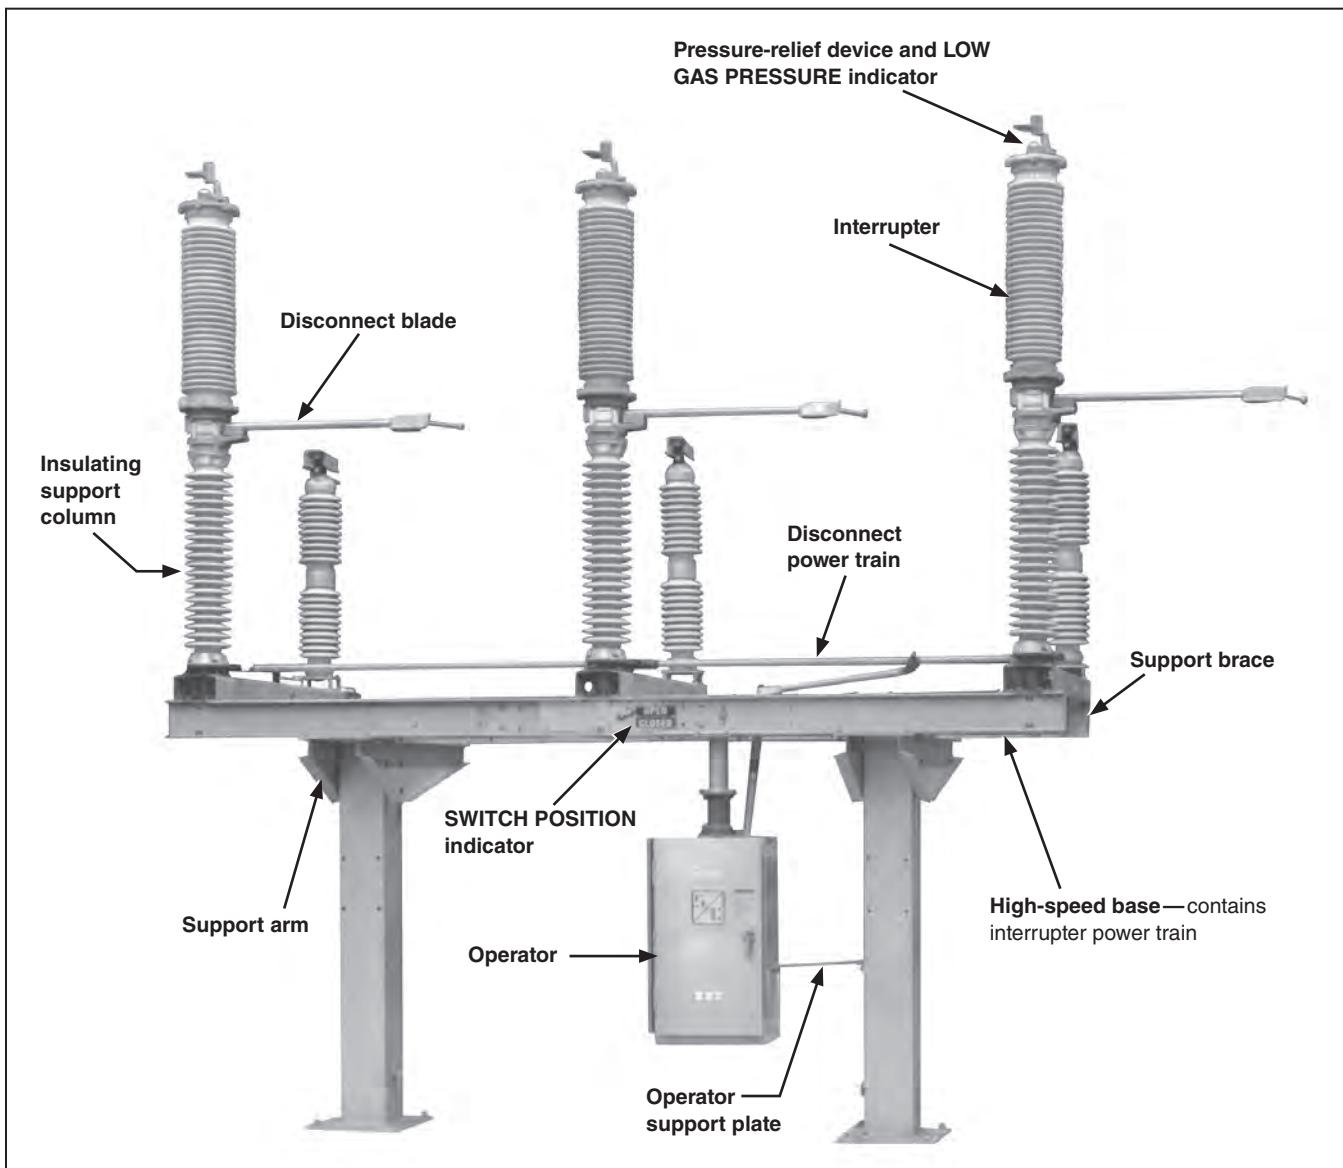
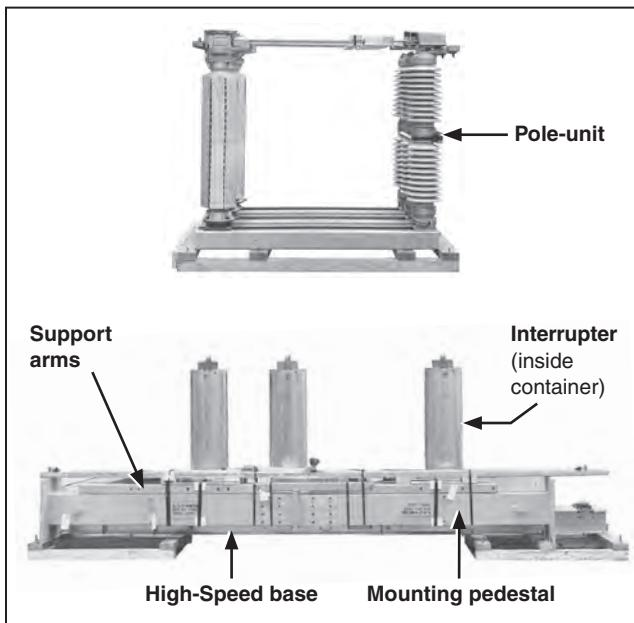

Figure 1. A Model 2020 Series 2000 Circuit-Switcher rating 138 kV.
Figure 2. A typical shipment of a Model 2020 Series 2000 Circuit-Switcher. The operator is shipped on a separate skid.
An S&C catalog drawing is located in a water-resistant envelope attached to the wrapper around one of the insulating support columns. Study this drawing carefully and check the bill of material to verify all parts are available. The Model 2020 Series 2000 Circuit-Switcher shipment should include the items shown in Figure 1 on page 9 and Figure 2 on page 10.
- STEP 1.** Use a steel strapping cutter to cut the steel straps binding the mounting pedestals and support arms to the high-speed base. Also cut the straps binding the container of operating mechanism components and hardware and the straps that bind the pole-units. See Figure 2.
- STEP 6.** Attach the support arms to the mounting pedestals as shown on the catalog drawing using $5/8-11 \times 1\frac{1}{4}$ -inch hex-head galvanized steel cap screws and flat washers furnished. Torque the cap screws to 75 ft-lbs (101.7 Nm). See Figure 1 on page 9.